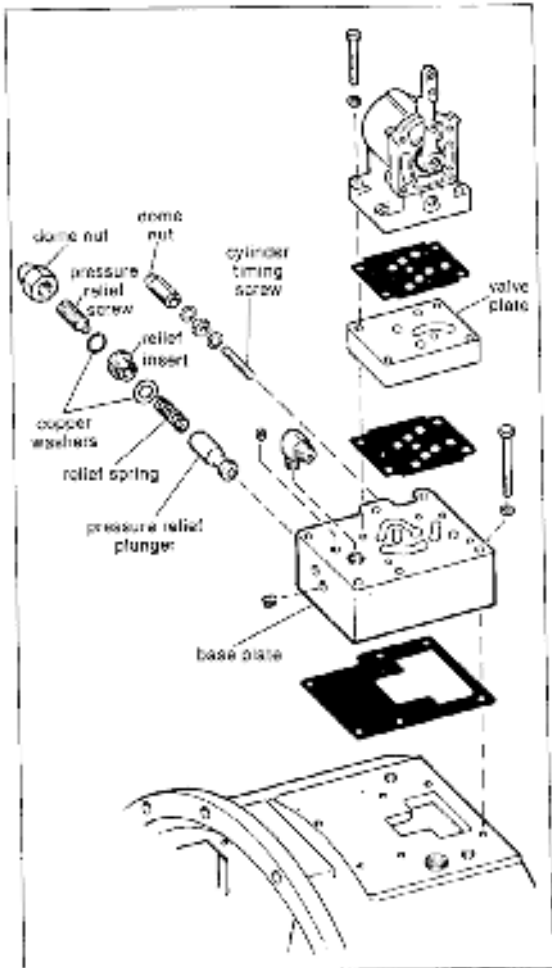

Fig. 21. Exploded View: Selector valve and related parts.
8. Check for correct assembly by moving lever back and forth. Selector valve is now ready to be installed on main housing. See fig. 21
1. Remove dome nut, pressure relief screw, relief insert and accompanying washers. See fig. 21. **NOTE: REMOVE RELIEF SCREW CAREFULLY BECAUSE RELIEF SPRING IS UNDER TENSION.**